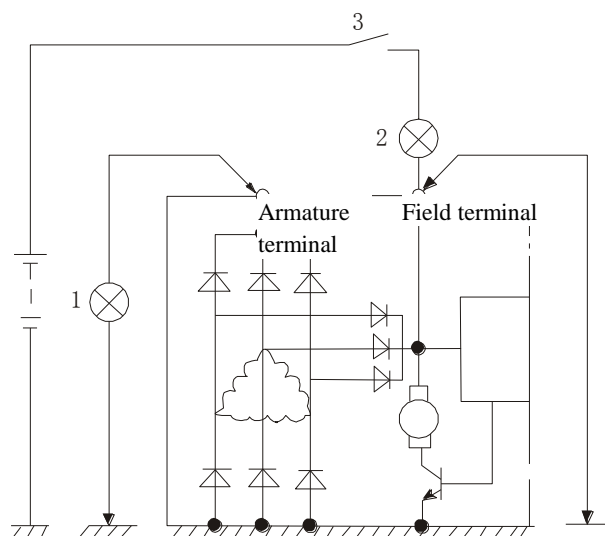

Fig.12-22 Check of Generator Generating Stability
(2)Fault diagnosis Connect a headlight bulb directly between the generator armature terminal and earth (Fig.12-22), and make the generator stably running at intermediate speed. If the bulb still goes on or out, it shows that the circuits in the generator, contact of electric brush and sliding ring or the voltage regulator is poor, so it's required to disassemble and check the generator; if the illuminance of bulb is stable, it may be caused by loose connection of generator output circuits or rusting on contact surface, so the bulb shall be checked and repaired.